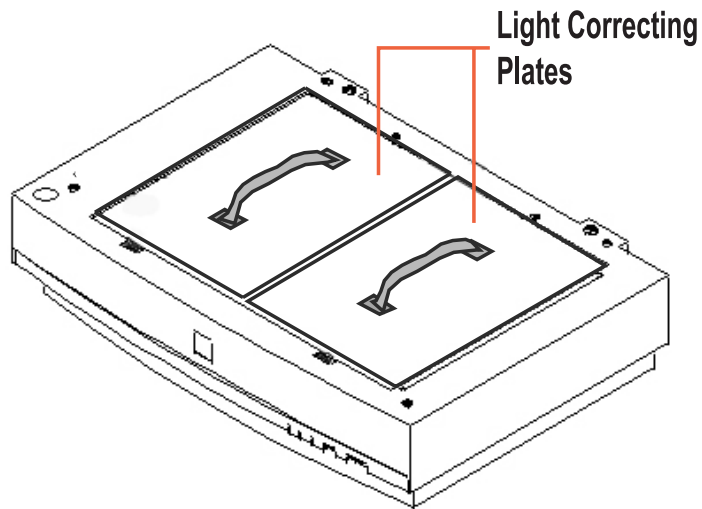

Figure 5-12. Light Correcting Plates Setting
3. Remove the Document Unit Cover, and place the light correction tools (Light Correcting Plates attached with the White Standard Chart) on the glass as shown in Figure 5-12.